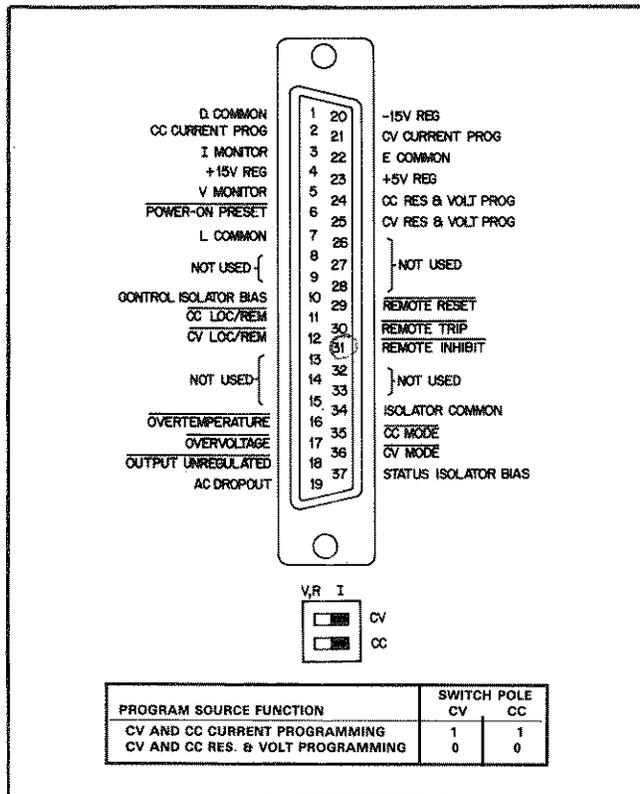

Figure A-2. 002 Option Rear Panel Connector J3 and Switches A1 and A2.
Next switch A1 and A2 also on the rear panel, to the correct program source function, see Figure A-2. All connections are made at the 37-pin rear panel connector J3, and can be wired directly into the mating connector supplied for this purpose.
A-24 Check switches A1 and A2 on the rear panel, they must be in their correct positions for CV and CC resistance/voltage programming (see figure A-2). A resistance variable from 0 to 4 K ohms can be used to program the output voltage or current from 0 to full scale. To program the output voltage, connect the variable resistance between J3-25 (CV
**A-25 Remote Voltage Programming (Figure A-6).** Check switches A1 and A2 on the rear panel, they must be in the correct positions for CV and CC resistance/voltage programming (see figure A-2). A voltage source variable from 0 to 5 volts, can be used to program the output voltage or current from 0 to full scale. The load on the programming source is less than 1 mA. To program voltage, the voltage source should be connected from J3-25 (CV RES & VOLT PROG) to J3-22 (E COM). To program current, the voltage source should be connected from J3-24 (CC RES & VOLT PROG) to J3-22 (E. COMMON). If the programming lines become open circuited (user's system becomes disconnected from J3) during voltage programming, the Programming Protection circuit will reduce the power supply output to zero.
**A-26 Current Programming (Figure A-7).** Check switches A1 and A2 on the rear panel, they must be in the correct positions for CV and CC current programming (see Figure A-2). A current sink variable from 0 to 2mA, can be used to program the output voltage or current from 0 to full scale (see Figure A-7). The following paragraph provides a brief circuit description, refer to schematic diagram.